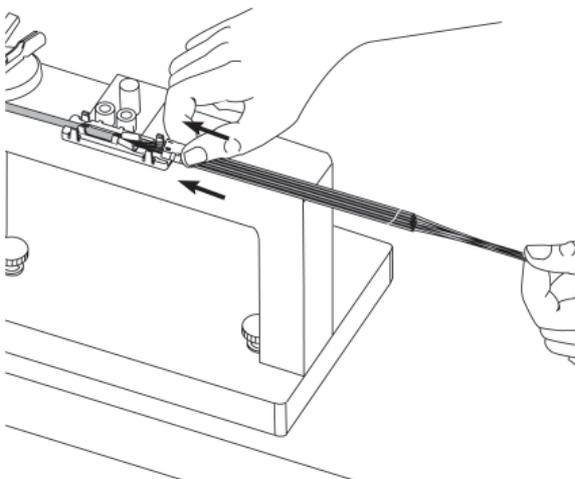

Figure 18
**7.7** Carefully slide the assembly while gently pulling the bare fibers protruding from the 900  $\mu\text{m}$  tube ends until the assembly is above the fan-out body (Figure 18).